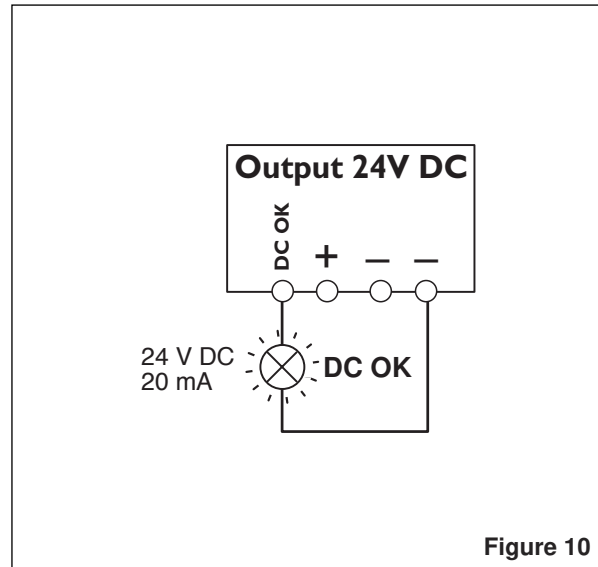

Figure 10
#### Active signal output (③, Figure 10)